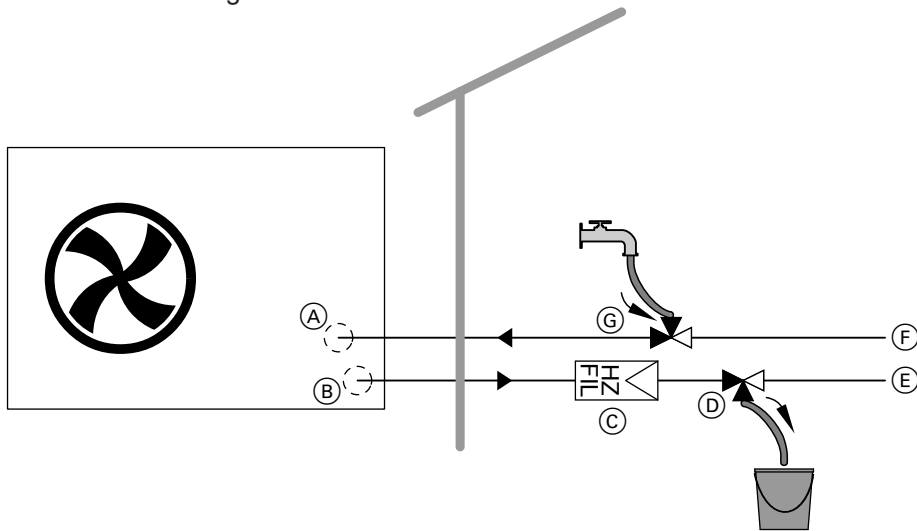

Fig. 33
6. Open both 3/2-way ball valves in the direction of the outdoor unit: See Fig. 33